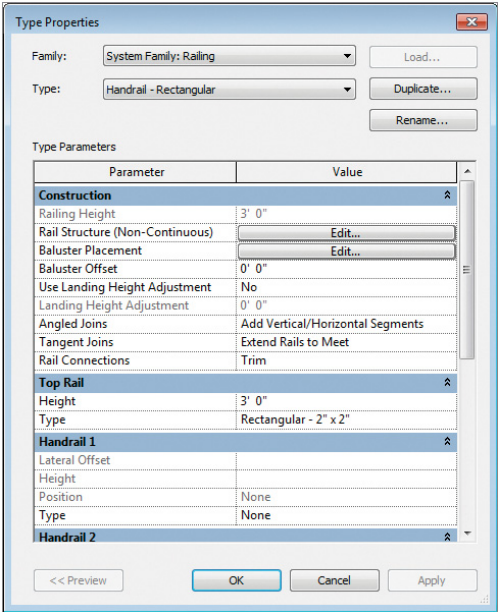

FIGURE 4.2 Railing type properties
1. Select the railing, and choose Edit Type from the Type Selector to open the Type Properties dialog, as shown in Figure 4.2.